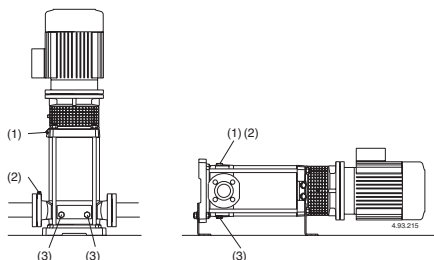
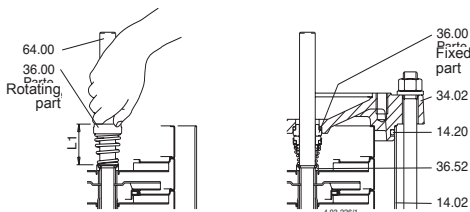

Fig.4 (1) Filling and air vent
Fig.5 Inserting the mechanical seal
**When the pump is located above the water level** (suction lift operation, **fig. 3A**) or with a positive suction head which is too low (less than 1 m) to open the non-return valve, fill the suction pipe and the pump through the priming hole (1) (**fig. 4**).
(2) Suction side air vent
(3) Draining
**When the liquid level on the suction side is above the pump** (inflow under positive suction head, **fig. 3B**), fill the pump by slowly and completely opening the inflow gate valve while keeping the delivery gate valve and air vent holes (1), (2) (**fig.4**) open to release the air.
**During filling, keep the air vent holes (1)(2) open only if the inflowing liquid presents no possible danger on account of its nature, temperature or pressure.**
Close the air vent holes (1), (2) (**fig.4**), for MXV-B, MXV(L) 25-32-40 e MXV(L)4 25-32-40 Tighten the needle screw (14.17) in the drainage plug (14.12) (**fig. 4b**) and close the air vent hole (14.04).
If a priming loss occurs (interruption of delivery flow, despite opened gate valves) or if a pressure oscillation is indicated on the pressure gauge, repeat the venting operation on the suction side (2), make sure all the suction pipe couplings are perfectly sealed and tighten the air vent plug (2) and the draining plugs (3) on the suction side (**fig.4**).
Or, after draining, perform the washing operation, inserting clean water (at least 40 litres) into the filling hole (1) on the delivery side and allowing it to come out of the draining hole (3) on the suction side (**fig.4**).
Before dismantling, disconnect the power cable from the terminal box, close the gate valves in the suction and delivery pipes and empty the pump casing (**fig. 4**). For dismantling and re-assembly refer to the section drawing (**section 14.**) and **figures 5, 6**. Dismantling and inspection of all internal parts can be carried out without removing the pump casing (14.00) from the pipeline.
Push the rotating part as far as the shoulder ring (36.52) on the shaft (64.00), without compressing the spring. Check the length before and after insertion and raise the rotating ring as far as the initial length (L1 in **fig.5**). In this way, correct compression of the spring will be ensured when the fixed part is mounted and after the shaft is locked in the coupling (L2 in **fig.6b**).